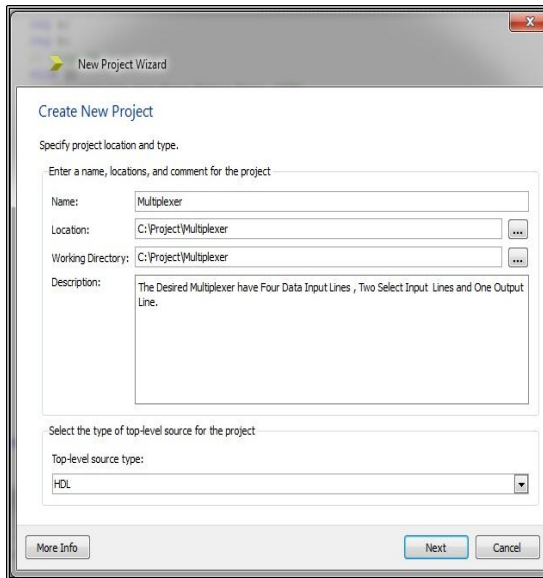

Fig 2.2: New Project
3. The **New Project Wizard** window will be displayed. In the **Name** field, type "Multiplexer" and in the **Location** field, browse to C:\Project or choose the directory in which you want to store the project. Select **HDL** as the Top-Level Source Type and click **Next** (Fig 2.2).